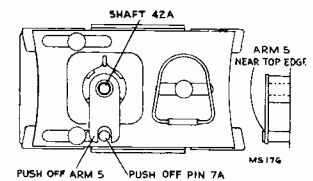

FIG. 7
2. Place push-off arm 5 over push-off cam shaft 42A, and engage push-off plate pin 7A near the top edge, fig. 7. Tighten set screws.